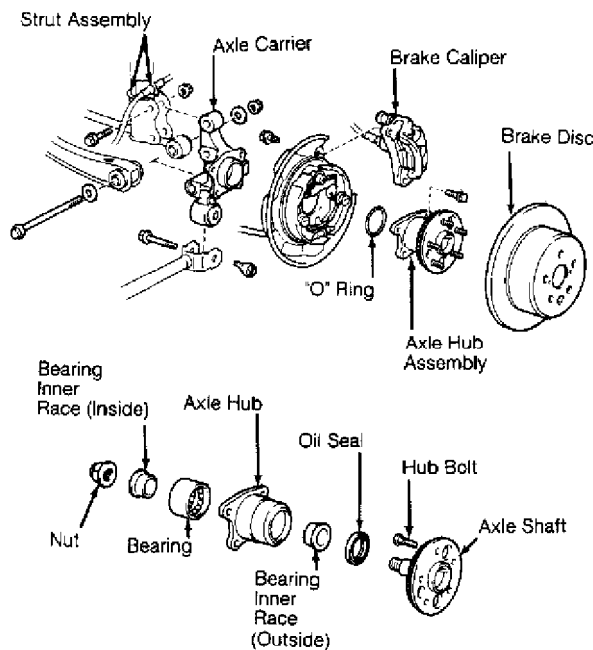

Fig. 3: Exploded View of Lower Rear Suspension (ES250)
1) Mount axle carrier on lower shock bolts. Tighten shock bolts to specification. Temporarily install No. 1 and 2 lower suspension arms to axle carrier. Install strut rod to axle carrier. See Fig. 3.
assembly mounting nuts. Remove lower strut-to-bearing carrier bolt. Remove shock absorber from vehicle. See Fig. 3.